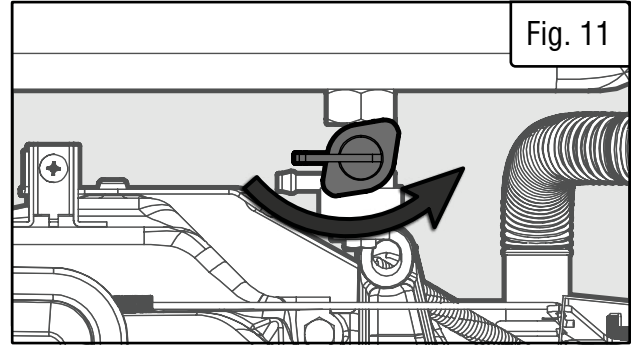

Fig. 11
1. Turn the fuel valve (Fig. 11) to the ON position.